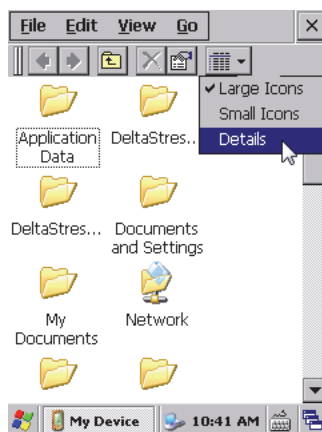

Figure G-16 Changing from icon view to detail view
6. If icons appear on your screen, click **View > Details** to view the folders as a list (see Figure G-16 on page 184).